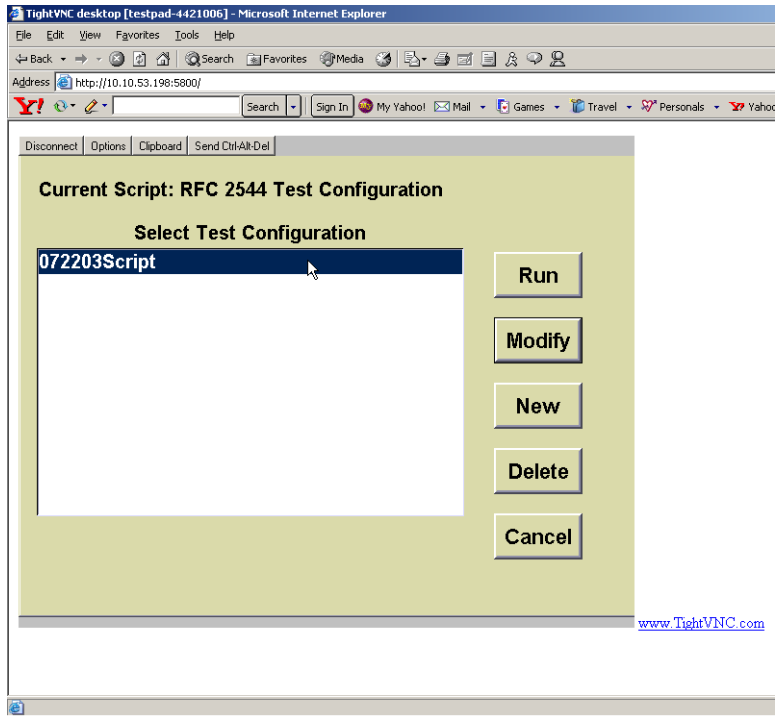

Figure 32 RFC 2544 Test Configuration dialog box
- 5 Wait for the RFC 2544 Test Configuration dialog box to appear. See Figure 32 on page 172.